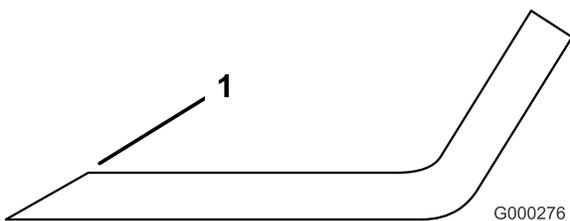

Figure 58
1. Use a file to sharpen the cutting edge at both ends of the blade (Figure 58).